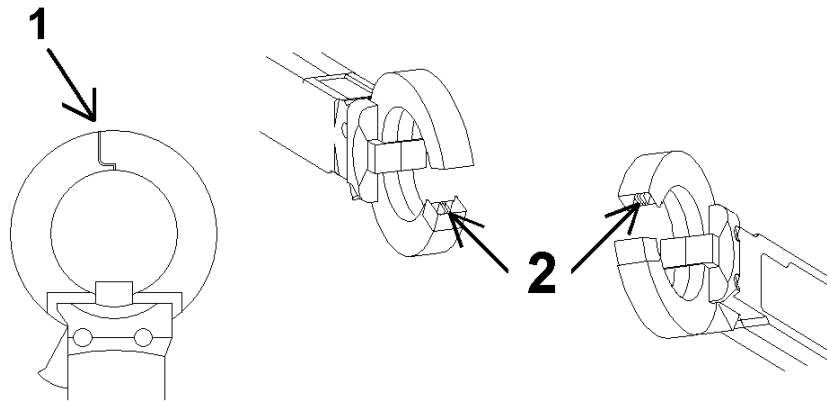

Figure 4
- It must be possible to close the jaws of the leakage current clamp meter (see figure 4, item 1) without exerting force. The metal lamellae (see figure 4, item 2) must not be bent or damaged!
- When closing the clamp, the jaws (see figure 4, item 1) must close without exerting force, because the metal lamellae (see figure 4, item 2) might otherwise be damaged.